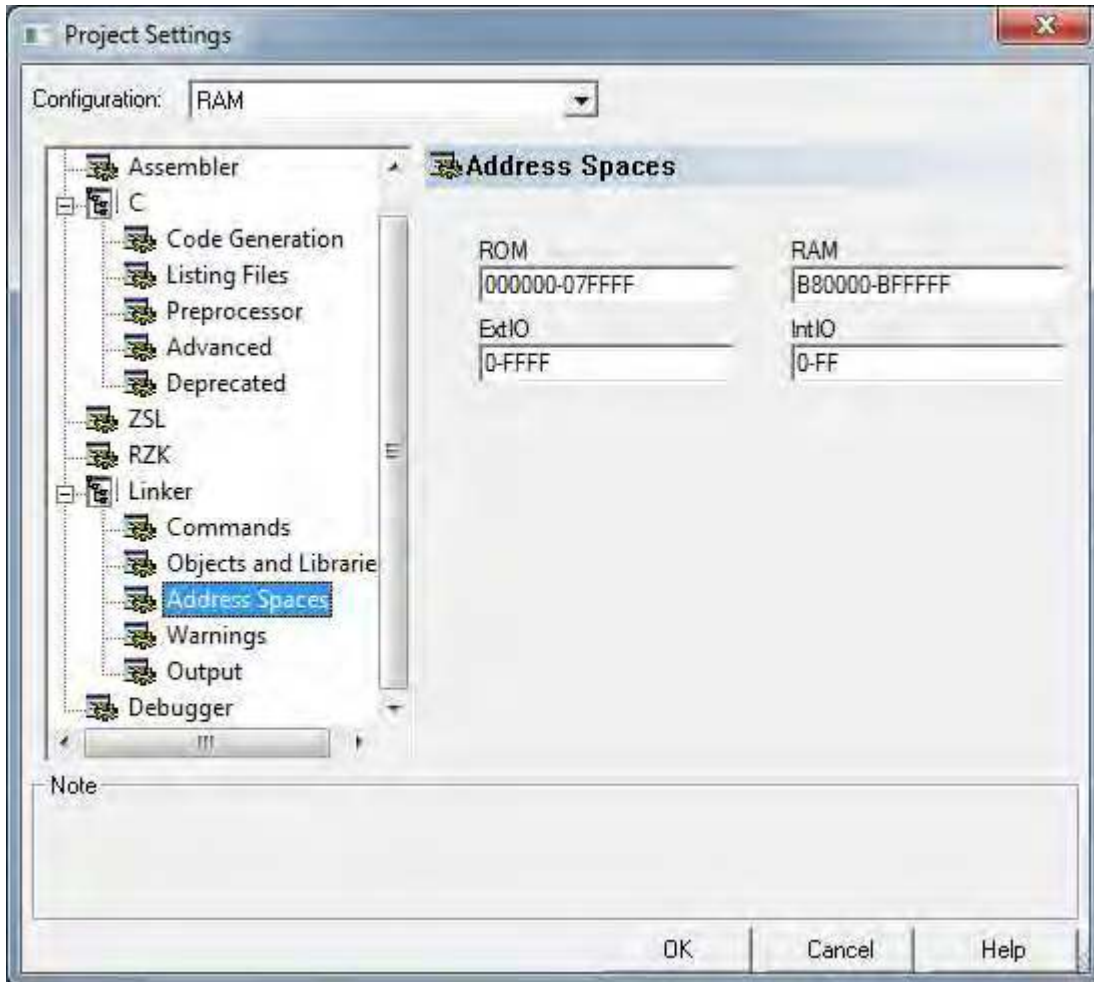

Figure 3. The Configure Target Dialog
5. When configuring RAM build configurations using the eZ80L925148MODG Module with the eZ80Acclaim! Development Platform, Zilog recommends using the settings in the Address Spaces selection of the Project Settings dialog, which is shown in Figure 3. Ensure that the project's settings match the values displayed in this figure.
4. Examine the settings of the remaining chip selects in the **Chip Select Registers:** drop-down menu, and verify that the settings for CS0 to CS3 correspond to the values shown in Figure 3.